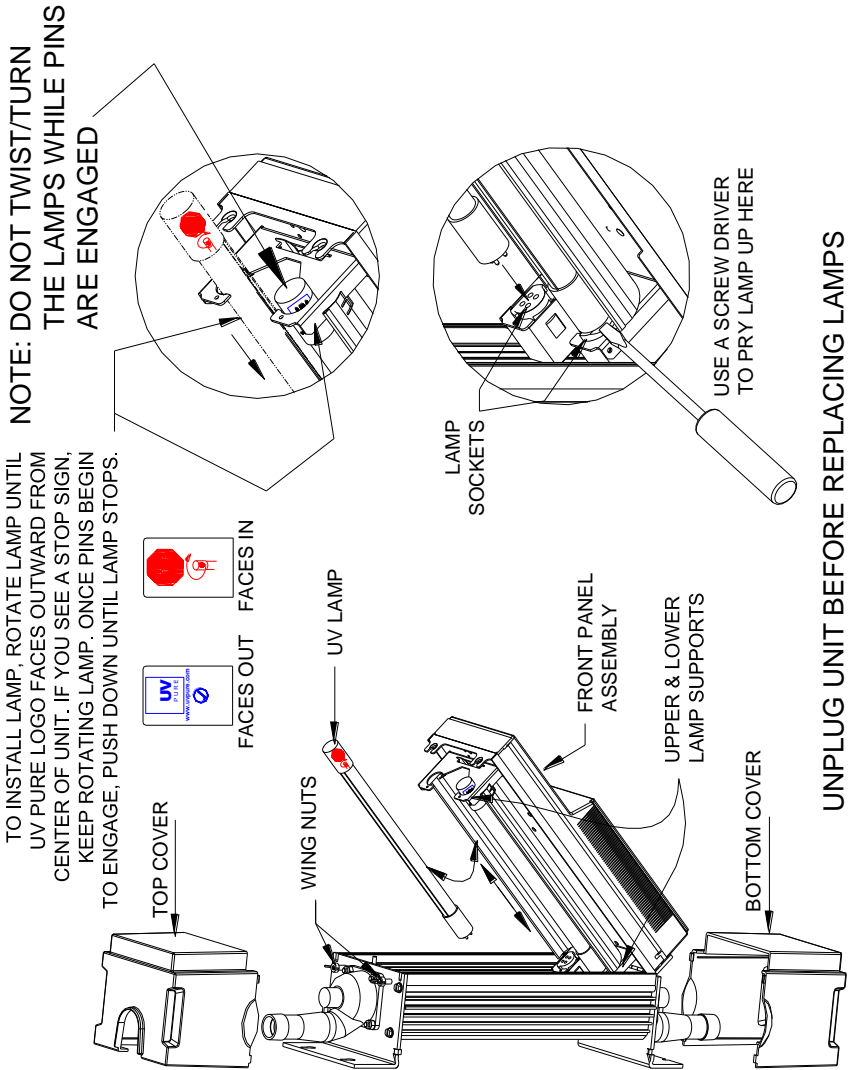

Figure 3
The lamps can be easily replaced in minutes. Draining the system or removing it from the wall is not required. See Figure 3.
**Step 2. CAUTION:** The lamps are very hot after continuous use and can burn your skin on contact. Allow lamps to cool for five minutes before removing them. Slowly lift the old lamps out of the system. **Do not twist the lamps as they are being removed.** To help remove the lamps, insert a flat bladed screwdriver between the lamp base and its socket and lightly pry the lamps upward (see Figure 3). Dispose of the old lamps in the same way you would dispose of ordinary fluorescent lamps. Note that old lamps should be disposed of at a household waste management depot or transfer station; contact your local recycling and waste management authority for proper disposal procedures.
**Step 3:** Install the new lamps into the unit, being careful not to touch the bulb. **Ensure that the lamps are aligned with the “Stop Sign” printed on the top ceramic facing inward (towards quartz sleeve). If you can see the stop sign, the lamps are backward (See Figure 3).**